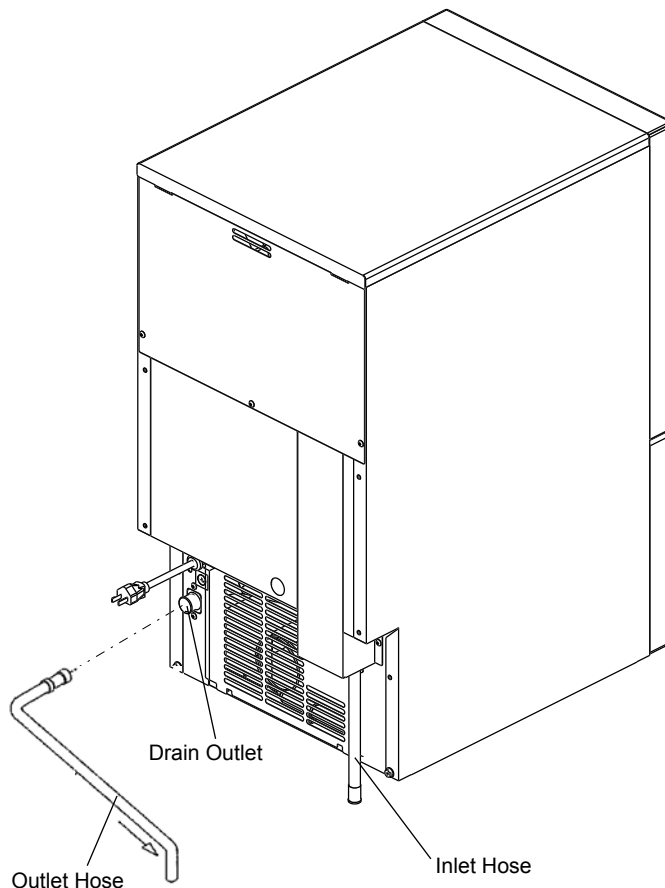

Fig. 3
- 2) Hand tighten grey flexible outlet hose (accessory) onto the fitting on the rear of the icemaker as indicated (Fig. 3), ensuring rubber sealing washer is correctly positioned to obtain a leak free joint. The pipe can be cut to length as necessary to suit position of main drain. To prevent water leaks, secure the outlet hose to the drain outlet by using a hose band.